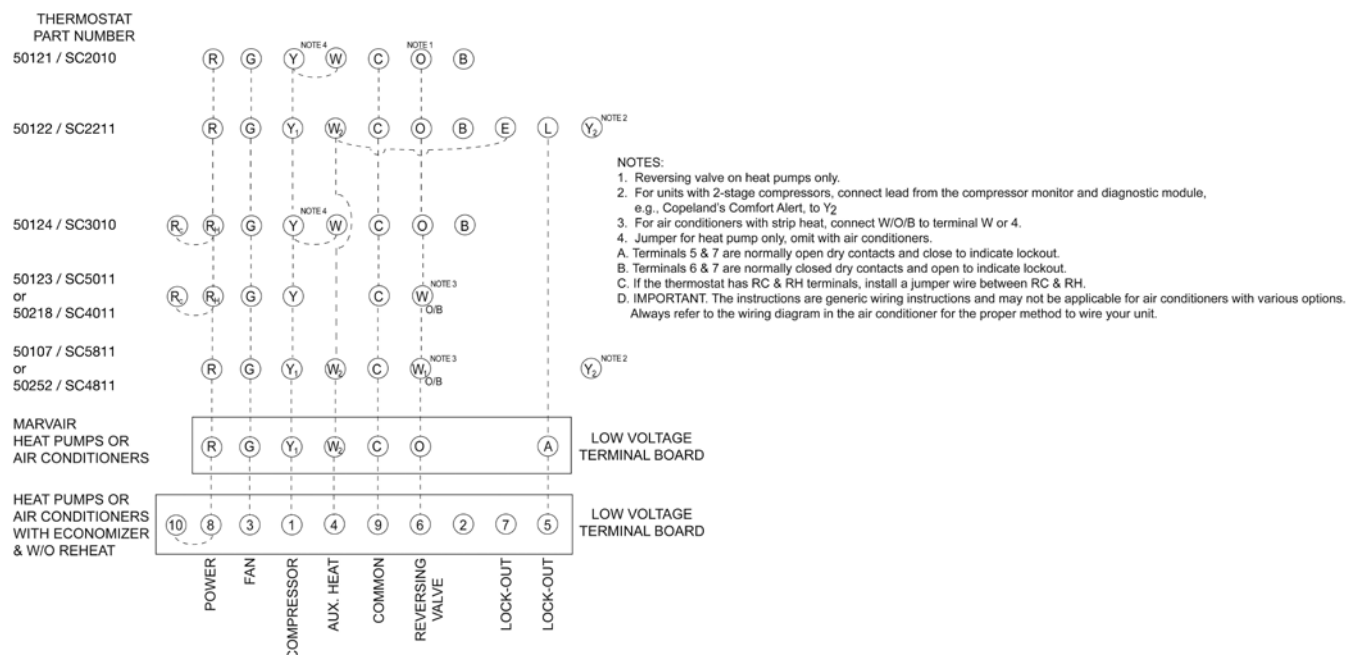

Figure 9b. Thermostat Connection Diagram
1. On single units, pull the low voltage wiring (e.g., 18 gauge 4-conductor Class 2 thermostat wire) from the ComPac unit into the thermostat / subbase assembly. See Figure 9b for connections to various thermostats.